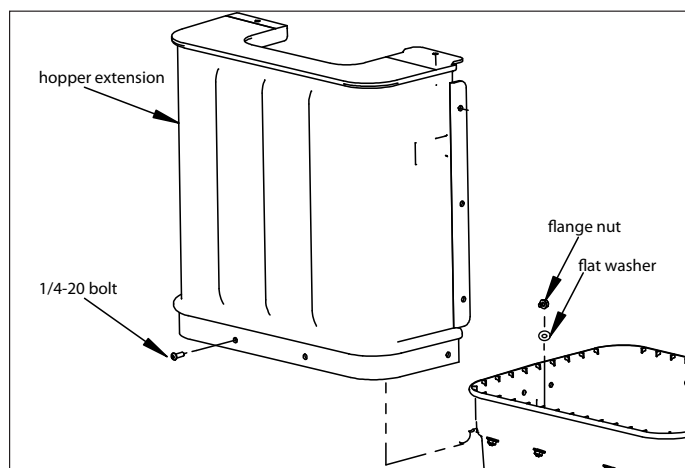

Figure 22
- 1) Before bolting the handle into position, slide one hopper extension half (1709470) over the rim of the hopper. The groove around the inside bottom of the hopper extension should fit over the rim around the top of the hopper. **SEE FIGURE 22.**
- 2) Ensuring the hopper and hopper extension holes are now aligned along the top rim of the hopper, place a 1/4-20 x 3/4 bolts (1960507) through each of the four holes in the extension and hopper. Secure bolts in place with the included 17/64 x 5/8 flat washers (1921319) and 1/4-20 flange nuts (1930642). **DO NOT fully tighten hardware at this point. SEE FIGURE 22.**